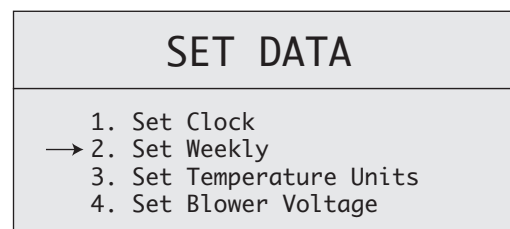

Figure 22: Set Data
1. Press and hold the **ENTER**  button until the **"Set Data"** menu appears on the screen. Using the **SCROLL DOWN** button, select **"Set Weekly."** Press **ENTER**. This will take you into the **"Weekly Schedule"** screen. **SEE FIGURE 22.**